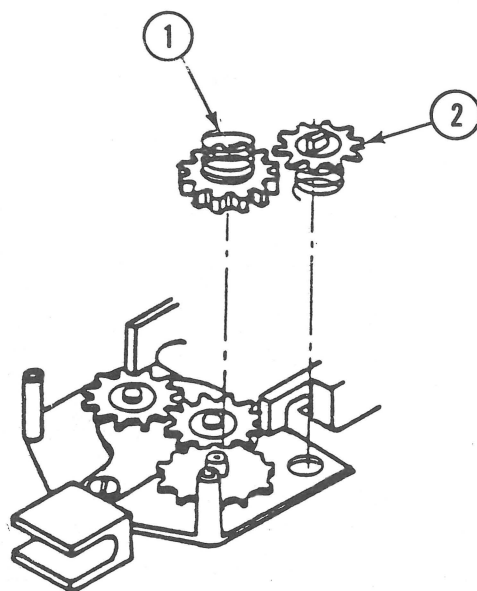

FIGURE 9
Note: There are springs beneath the cartridge mount plate (see Figure 9). They may pop out when you lift up the mount plate.
6. Pull up the ratchet gear and ratchet spring (Figure 9, #1). If they don't come off easily, carefully pry them off with a flatblade screwdriver.
7. Pull off the cartridge drive gear and the ribbon spring (Figure 9, #2).